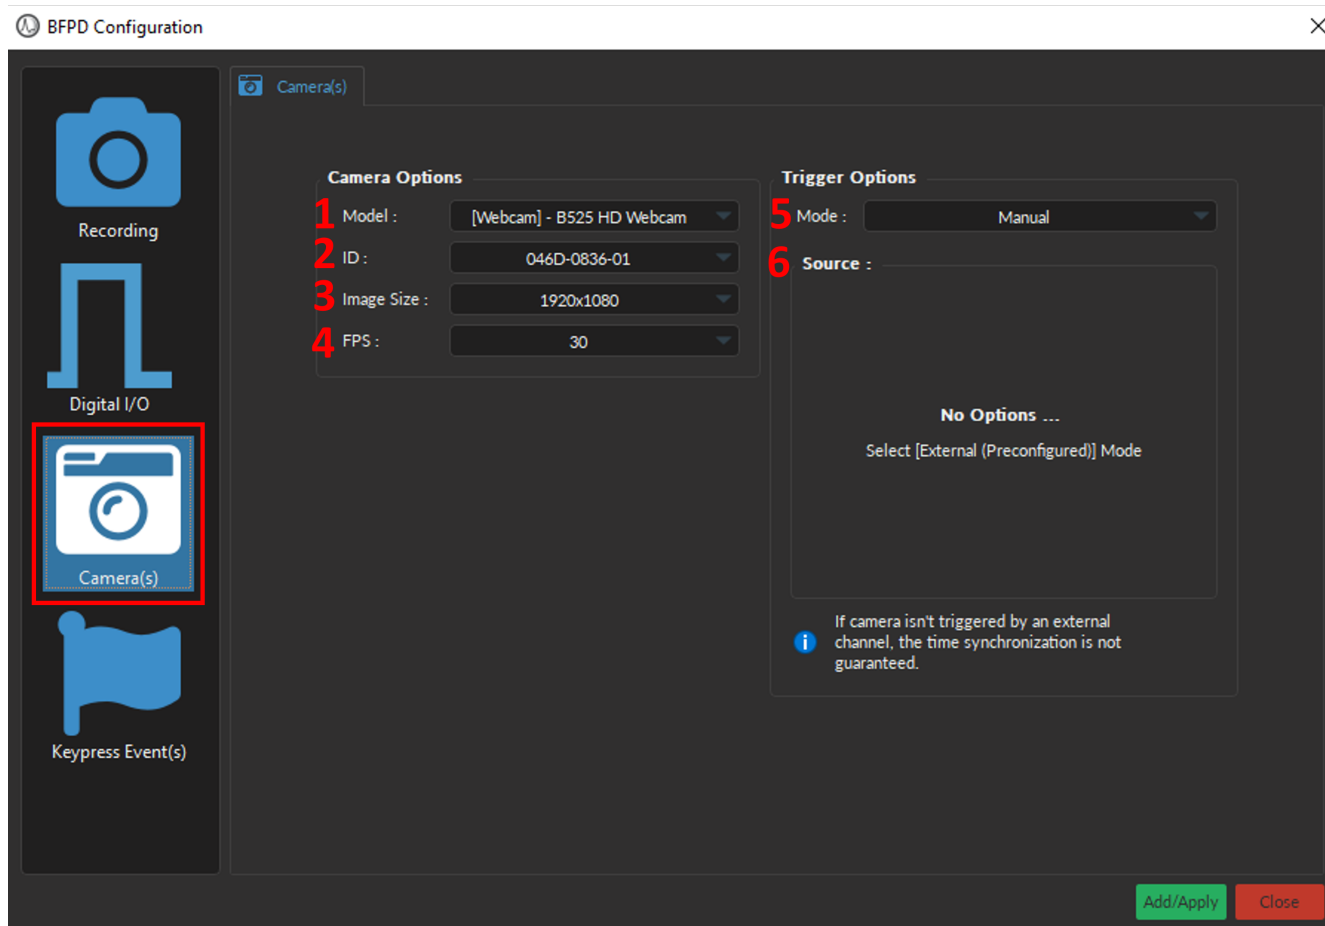
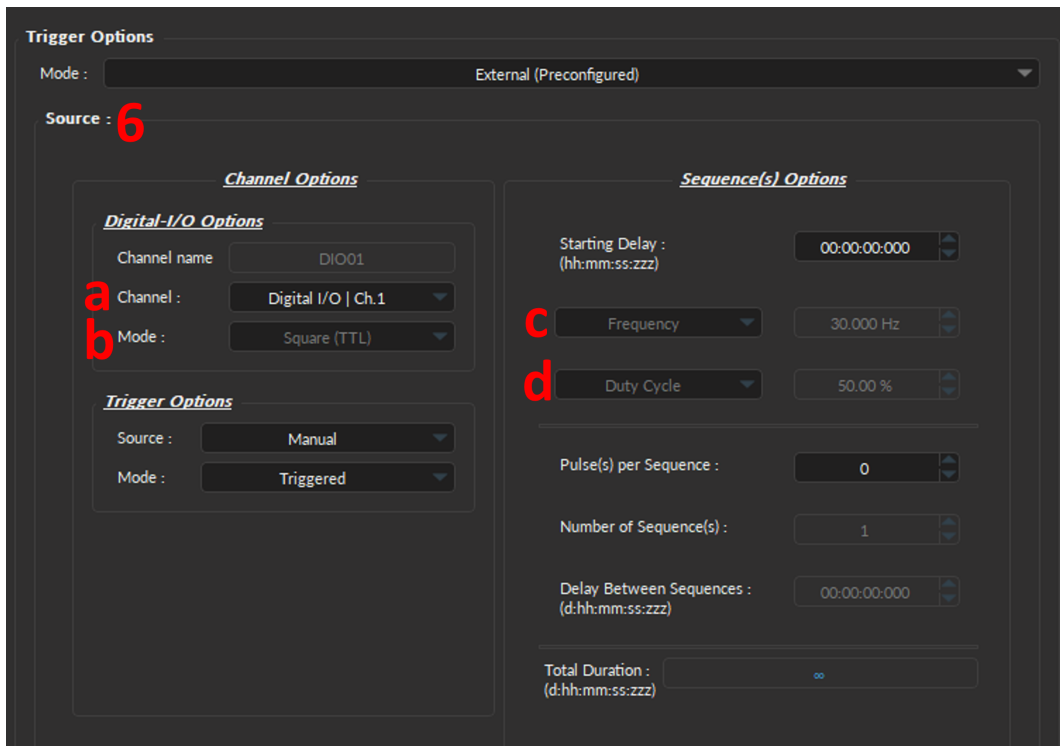

Figure 9.25: Channel(s) configuration window, Camera
Figure 9.27: Channel(s) configuration window, Camera - External (Preconfigured)
1. The **Model** (Fig. 9.25, 1) allows you to select the camera of choice based on the type of camera.
2. **ID** drop-down list (Fig. 9.25, 2) is used to select a camera based on its unique ID. The ID is beneficial when multiple cameras of the same model are required for the experiment.
3. The **Image Size** (Fig. 9.25, 3) is used to set the resolution of the image. The large the number of pixels used for width x height, the better the resolution. Currently, image size can ranges between 160x120 to 1920x1080 pixels.
4. The **FPS** (Fig. 9.25, 4) is used to specify the frame rate of the camera (i.e. the number of images displayed per second). FPS can be any value between 5 to 30 for web cameras and up to 60 FPS for the *Doric Behavior Camera*.
- The **Mode** (Fig. 9.25, 5) sets the type of trigger that will control the camera. Depending on the type of camera, at most three modes are available:
- The **Source** (Fig. 9.25, 6 & Fig. 9.27) is only used for the **External (Preconfigured)** mode, and displays the **Digital I/O** channel with the preconfigured parameters that will be created at the same time as the **Camera Channel** (Fig. 9.27). For a detailed description of each Digital I/O parameter see Section 9.4.4. Briefly, key parameters include:
- The **Channel** (Fig. 9.27, a) corresponds to the physical Digital I/O channel number on the BFPD that is connected to the trigger cable of the *Doric Behavior Camera*.
- The **Mode** (Fig. 9.27, b) is by default set to the *Square (TTL)* which provides the external trigger signal to the camera. This parameter cannot be changed.
- The **Frequency** (Fig. 9.27, c) corresponds to the **FPS** set in the **Camera Options**. Changing the **FPS** will automatically change the **Frequency** in the **Sequence(s) Options**.
- The **Duty Cycle** (Fig. 9.27, d) is by default 50%. The frame will be taken at the start of each square pulse.